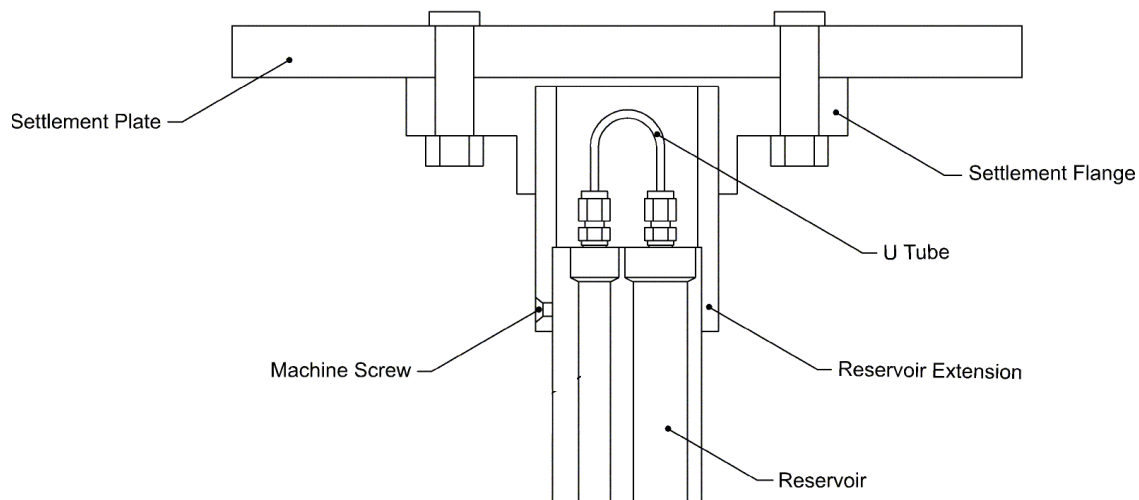

Figure 7 - Reservoir Attachment
- 9) Attach the settlement flange and plate to the reservoir using the four ¼-20 flat head screws provided (Figure 7).